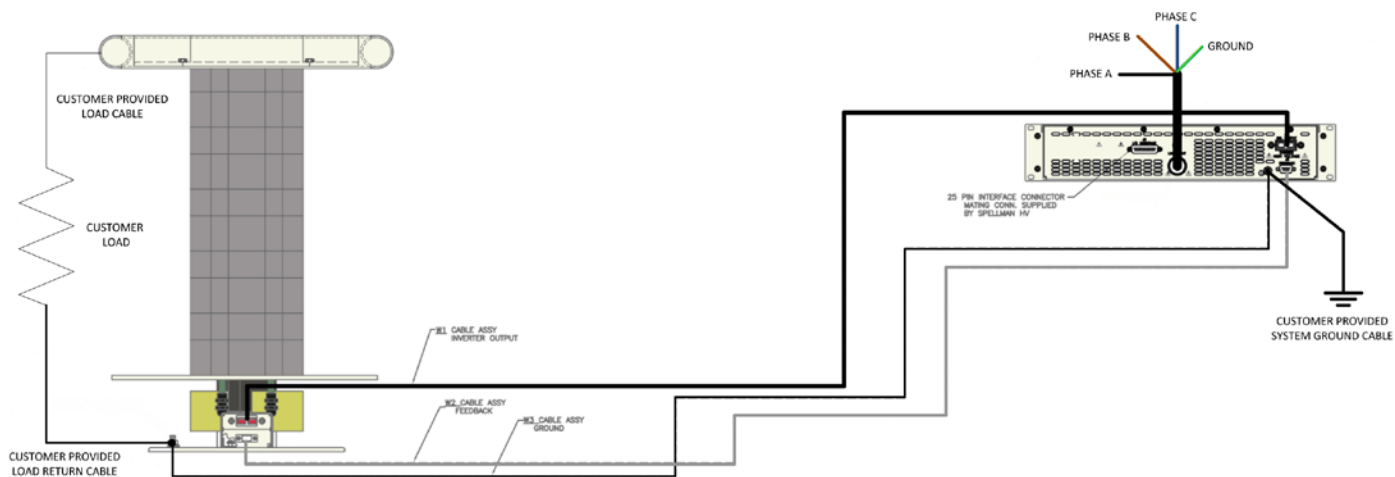

Figure 3.1 -- Typical Operating Setup
- A) Insure the Circuit Breaker is in the OFF position (0).
- C) **PROPER GROUNDING TECHNIQUES:** The E1 ground stud on the rear of the inverter chassis must be connected to whatever customer system ground is used: cold water pipe ground, electrical conduit ground, steel building girder ground, ground rod ground, etc. This customer provided system ground cable should be a heavy gauge, mechanically secure connection. See Figure 3.1 for a typical operating set-up.